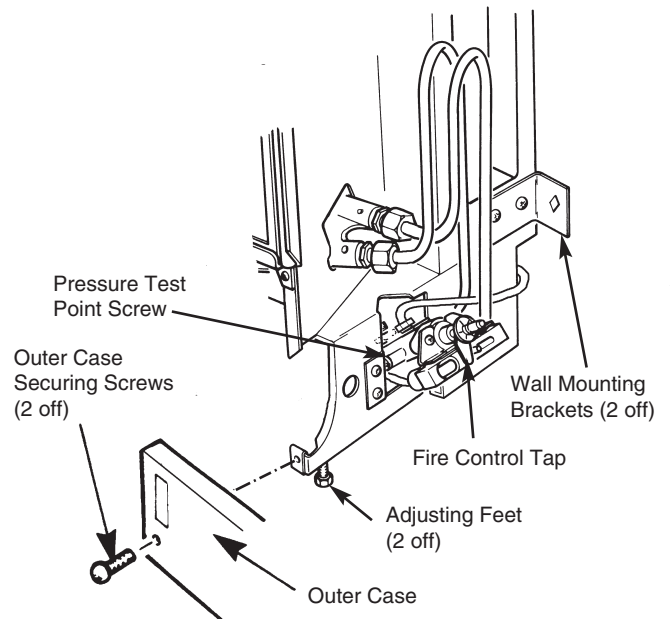

Fig. 7 Commission the Fire
- Adjust the feet to level the fire (Fig.7). Check that the fire is sufficiently stable.
- Fit the two wall mounting brackets using the four No. 8 x 3/8in self tapping screws provided (Fig. 7).
## Check the gas pressure (Figs 7 and 11)
- (c) Secure the outer case to the inner case using the two screws provided then locate the cover panel in the spring clips (Fig. 7).
- (c) Remove the two case securing screws (Fig.7).